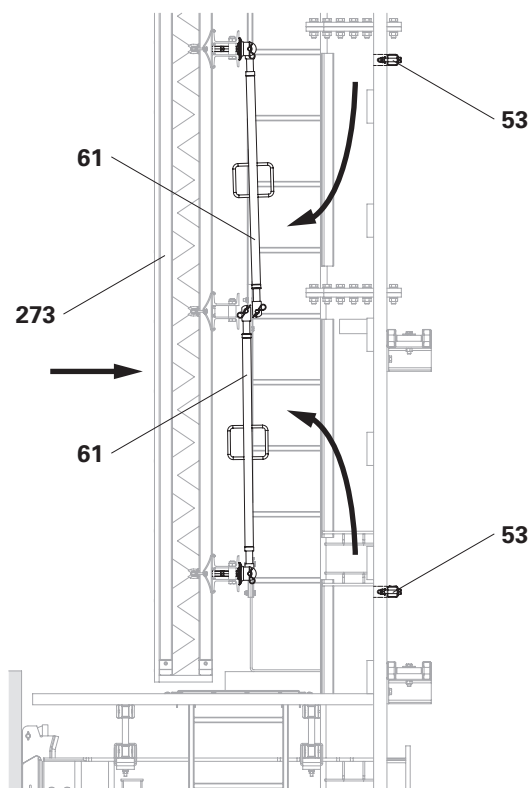

Fig. C5.01
1. Unbolt the Kicker Brace AV 140 (61) at the Connection AV ACS (53), fold it towards the formwork unit (273) and fix it in place.
2. Retract the formwork unit (273).
3. Secure the formwork unit (273).
- (Fig. C5.01)